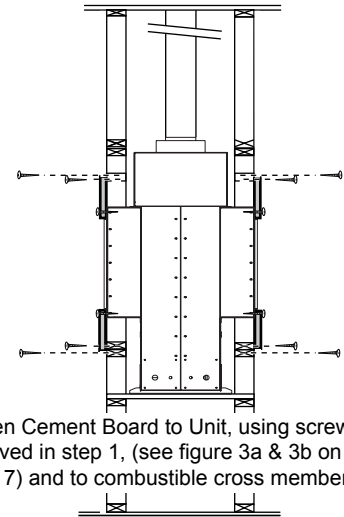

Figure 3d. Non-combustible Cement Board the Fireplace, (supplied by Montigo) Both Sides Typical.
**Step 3.** As shown in Figure 3d; Use Cement Board, supplied by Montigo, to overlap the new 2 x 4's and Non-combustible Header (front & rear face) See Page 7 Figure 3c. Attach on all sides of the glass, allowing 1/8" clearance from the rim of the fireplace opening.